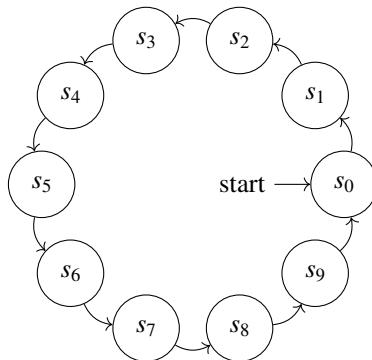

Fig. 6.1: FSM for the decade counter
1. Fig. 6.1 shows a *finite state machine* (FSM) diagram for the decade counter in Fig 5.2 s_0 is the state when the input to the incrementing decoder is 0 The *state transition table* for the FSM is Table 3.4, where the present state is denoted by the variables W, X, Y, Z and the next state by A, B, C, D .
For the FSM in Fig 6.1, the number of states is 9, hence the number flipflops required = 4